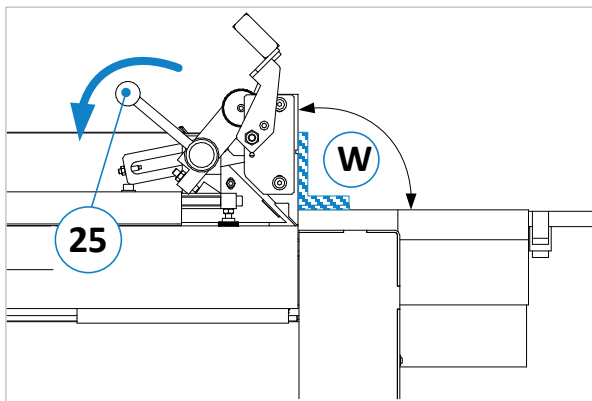

Figure 38: Check angle 90 degrees
1. Check the angle at the starting position 0 with a 90° stop angle (**W**) in the clamped state of lever (**24**) (see \Rightarrow Figure 38) \rightarrow If the angle is not exactly 90°, it must be readjusted.
3. To check whether you are turning in the right direction, push the adjustment lever (**25**) - as shown in \Rightarrow Figure 38 - all the way back with force (as far as it will go, the ruler must lift slightly). Then tighten the clamping lever (**24**) again. Repeat steps 1. and 2. until the angle is correct.